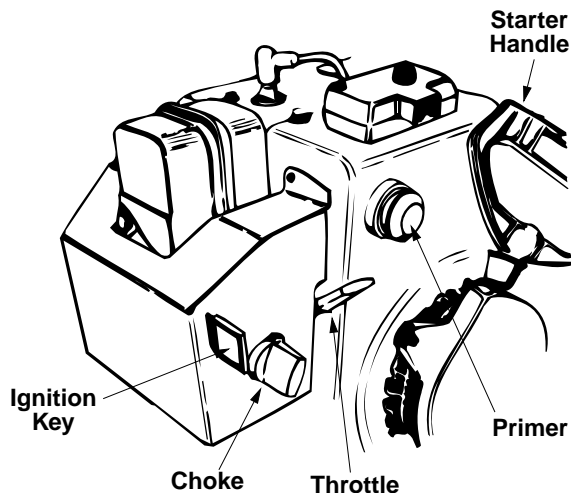

Figure 21
### THROTTLE CONTROL (See Figure 21)
### SAFETY IGNITION SWITCH (See Figure 21)
4. Move throttle control up to FAST position. Insert ignition key into slot. See Figure 21. Be certain it snaps into place. Do not turn key.
2. Move throttle control up to FAST position. Insert ignition key into slot. Refer to Figure 21 on page 11. Be certain it snaps into place. **Do not** turn key.
4. Push primer button two or three times. Refer to Figure 21 on page 11. If engine is warm, push primer button once only.
5. Grasp starter handle (refer to Figure 21 on page 11) and pull rope out slowly, until it pulls slightly harder. Let rope rewind slowly.